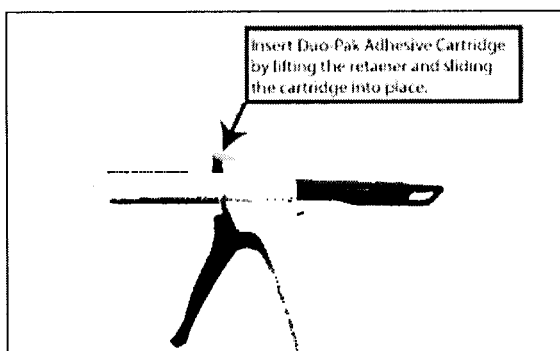

figure 4
3. Load 3M™ 8010 Duo-Pak Adhesive Cartridge as shown in **figure 4**.